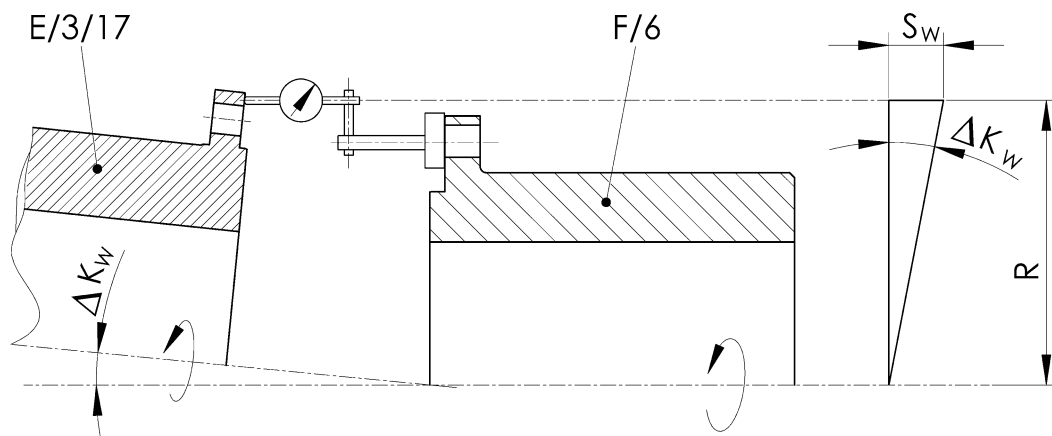

Fig. 5-3 Angular misalignment
- Measure the angular misalignment (see Fig. 5-3).